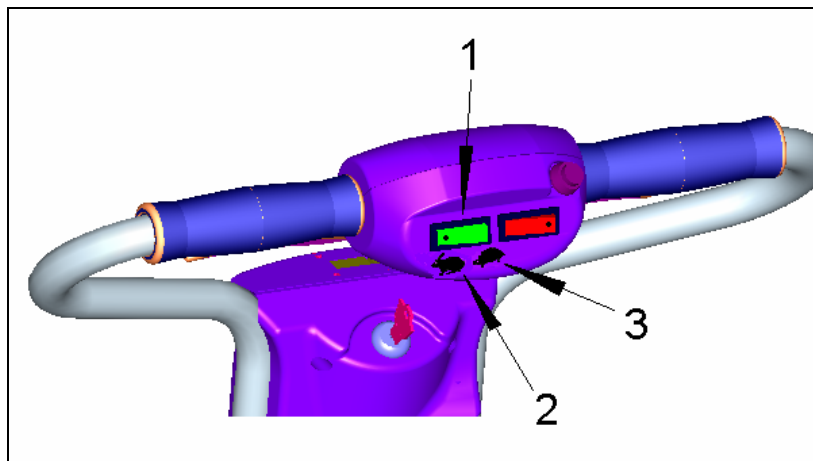

Figure 11
One way to control the speed of the Caddy is by squeezing the throttle handles: The more you squeeze, the faster you will drive. Another way to limit the speed is by means of the speed selector switch (1) see **figure 11**.
- The Caddy has two positions to limit the maximum speed: The **high speed** setting indicated by the **hare** (2) on the speed selector switch (1) sets the Caddy to a maximum speed of **7,5 km/h**. If the switch is in this position the green light should light up see **figure 11**.
- The **slow speed** setting indicated by the **turtle** (3) on the speed selector switch, sets the Caddy to a maximum speed of **4,5 km/h**. In this position the green light on the switch is OFF. See **figure 11**.